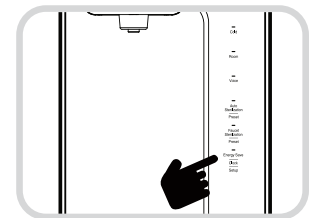

Fig. 19
1. Press the Energy Save/Clock (Setup) button for three (3) seconds in the Waiting Status to put the unit in the User Setting mode. (Fig. 19). The Voice Guide will say "selecting user setting mode" "user setting mode, please set function by pressing the illuminated button".